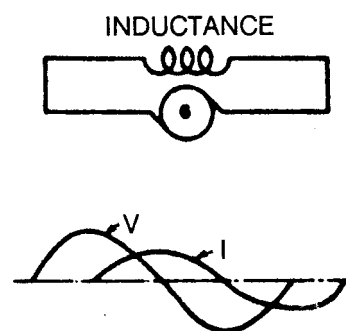

FIGURE 14-21. Lagging Power Factor
- When the load current is in phase with the terminal voltage or when the load current lags the terminal voltage (due to inductive reactance from motor loads), then additional voltage must be generated to overcome the armature's inductive reactance (Figure 14-21).